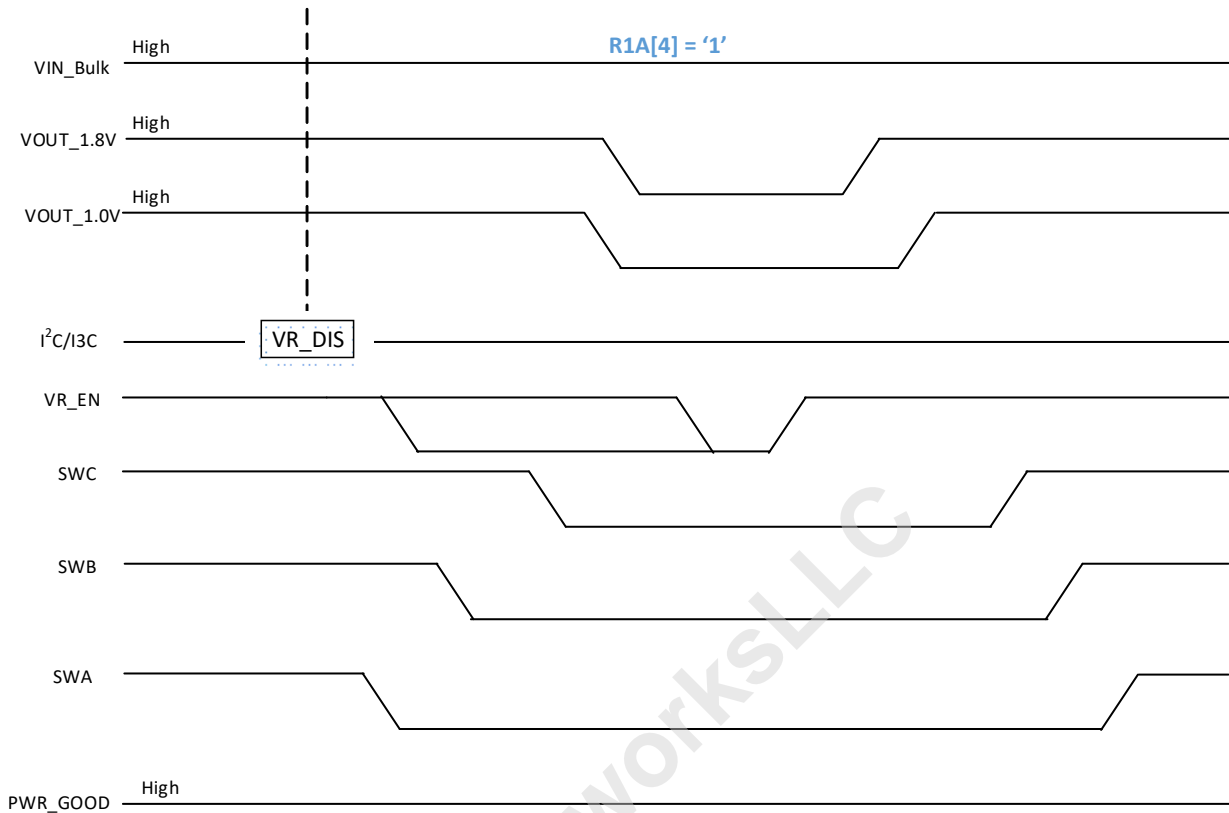

Figure 29 — Power Down with VR_DIS; R1A[4]=1; Program. Mode; PWR_GOOD Signal
- b. If VR Disable command on a I²C/I³C Basic Bus (i.e., Table 138, "Register 0x32" [7] = '0'), PMIC keeps the PWR_GOOD signal floating because this is an intentional command from the host and not a fault condition. The PMIC exits from P1 state with only VR_EN pin transition to High. The host can re-enable the PMIC's output regulators by VR_EN pin transition to High and PMIC executes power on sequence config 0 to power on sequence config 2 registers. The PMIC continues to float PWR_GOOD signal until tPMIC_PWR_GOOD_OUT timing parameter is satisfied and at that point PMIC assumes normal control of PWR_GOOD signal. See Figure 29. The PMIC does not require power cycle.
2. Configuring one or more bits in Table 135, "Register 0x2F" [6,4:3] to '0' in any specific sequence that is desired by the host. The PMIC does not execute power off sequence config0 (Table 167, "Register 0x58") to power off sequence config2 (Table 169, "Register 0x5A") on its own. The PMIC keeps the PWR_GOOD signal floating because this is intentional command from the host and not a fault condition. Note that host can re-enable any of disabled output regulators by configuring one or more bits in Table 135, "Register 0x2F" [6,4:3] to '1' in any specific sequence that is desired by the host. The PMIC keeps the PWR_GOOD signal floating. The PWR_GOOD signal behavior is same as in Figure 29.